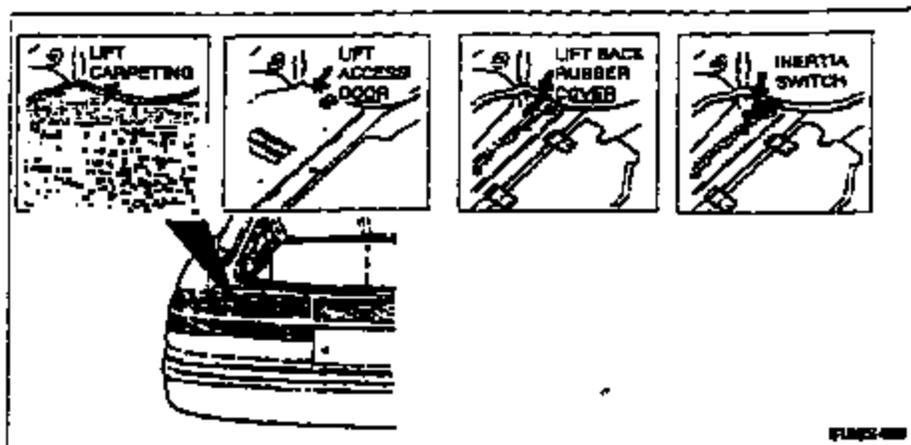

Figure 1
2. Locate and access the inertia switch. See Figure 1.